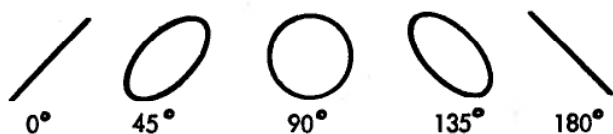

Fig. 3
**LISAJOUS PATTERNS:** Another type of fundamental pattern is obtained when both the vertical and horizontal deflection voltages are sine waves that are related in frequency as follows: one frequency is a whole number of times larger than the other; one frequency is a simple fraction of the other. When one or the other of these conditions is fulfilled, stationary closed-loop patterns are obtained. These patterns are called Lissajous figures after the 19th century French Scientist. They are particularly useful in determining the frequency ratio between two sine wave signals. If the frequency of one signal is known, the frequency of the other signal can be easily determined from the frequency ratio. Usually the known signal is applied to the horizontal channel and the unknown signal to the vertical channel. The shape of the pattern changes with the phase relationship between the known and unknown signals. For example, all the patterns shown in Fig. 3 (and those intermediate) are possible with a frequency ratio of 1:1 if the phase differences indicated exist.